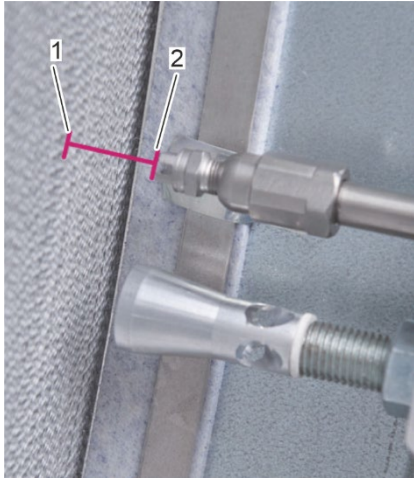

Fig. 41: Distance between water nozzle and rotor surface
6. Measure the distance between the high-pressure water nozzle (Fig. 41/2) and the rotor surface (Fig. 41/1).